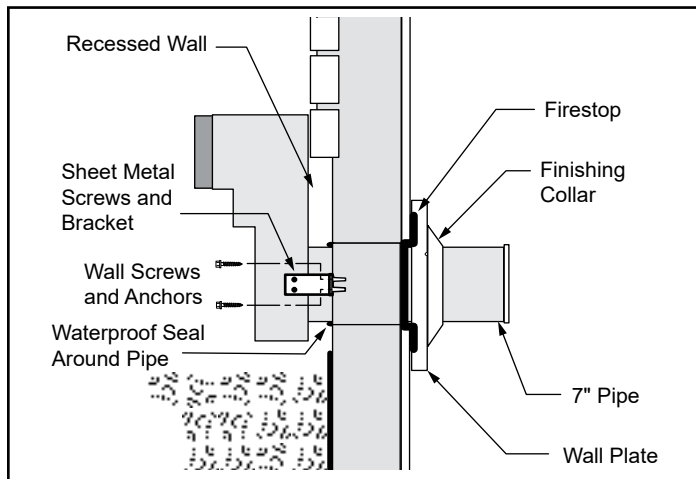
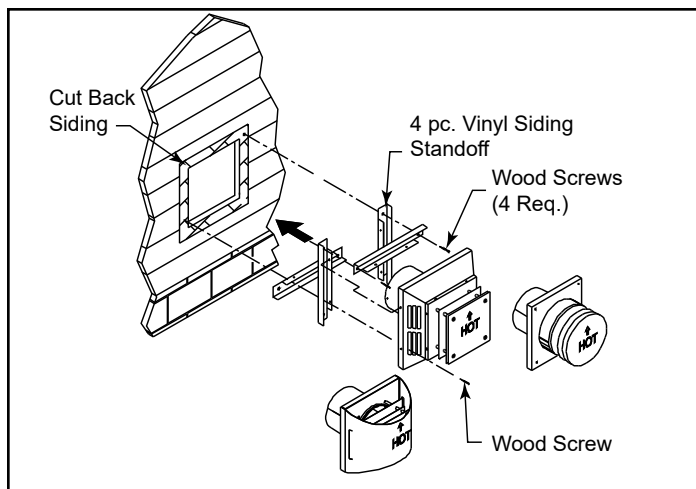

Figure 3.14 - Use extension brackets to mount snorkel against recessed wall.
Figure 3.29
2. Remove soil to a depth of approximately 16" (406 mm) below the base of the snorkel. Install a window well (not supplied). Refill the hole with 12" (305 mm) of coarse gravel and maintain a clearance of at least 4" (102 mm) below the snorkel, Figure 3.14.
7. If the foundation is recessed, use extension brackets (not supplied) to fasten the lower portion of the snorkel. Fasten the brackets to the wall first, and then fasten to the snorkel with self-tapping #8 x 1/2" sheet metal screws. Extend the vent pipes out as far as the protruding wall face, Figure 3.14.
1. The four (4) wood screws provided should be replaced with appropriate fasteners for use on brick, block, concrete or other types of sidings.
2. For buildings with vinyl siding or stucco, another component must be used between the horizontal termination cap and the wall surface. The vinyl siding standoff prevents excessive heat from possibly melting the vinyl siding material. Vinyl siding standoffs are not required with snorkels. For vinyl wall installations a 4-piece vinyl siding standoff should be assembled and installed between the horizontal termination cap and the exterior wall, Figure 3.29. The vinyl should be cut away to the outer edges of the assembled standoff.
IMPORTANT: You must attach the four (4) pieces of the new vinyl siding standoff to the horizontal termination cap in specific order to ensure a weather tight fit. Loosely assemble the four parts, in order, around the base of the horizontal termination cap. Place the first of four pieces along the upper edge of the cap, then using two (2) screws per side, secure each piece to the pre-drilled holes along both sides of the cap, finally, attach the final piece to the bottom edge of the cap. Tighten all screws and mount cap, with all four (4) pieces attached, directly onto the wall with the four (4) 2-1/2" (64 mm) screws provided, Figure 3.29.
3. When penetrating through stucco wall, install the counter flashing. The counter flashing allows stucco, or other materials, to be finished directly to the sides of the termination cap. First attach the counter flashing to the base of the horizontal termination cap with the small screws provided, then mount entire assembly onto the wall with the four (4) 2-1/2" (64 mm) wood screws provided.
Step 4 - Before connecting your horizontal pipe sections to the horizontal termination cap, slide the wall thimble cover over the pipe section nearest the interior side of wall, Figure 3.14.